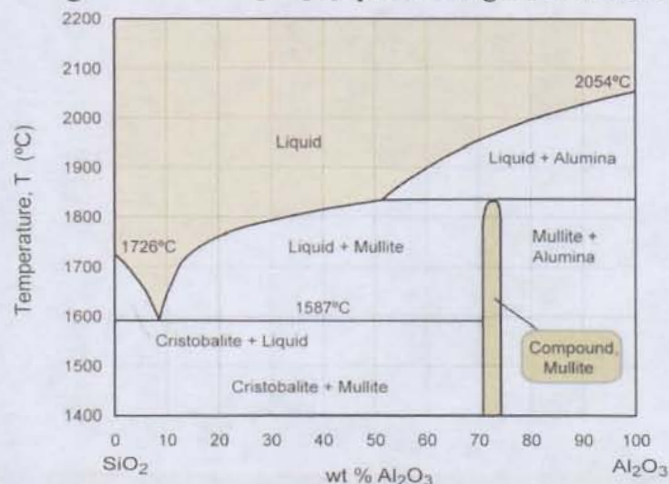

Figure 10: Phase diagram for the binary ceramic silica-alumina ( $\text{SiO}_2$ - $\text{Al}_2\text{O}_3$ ) system
16. Use the phase diagram for the  $\text{SiO}_2$ - $\text{Al}_2\text{O}_3$  system in Figure 10 to answer the following: